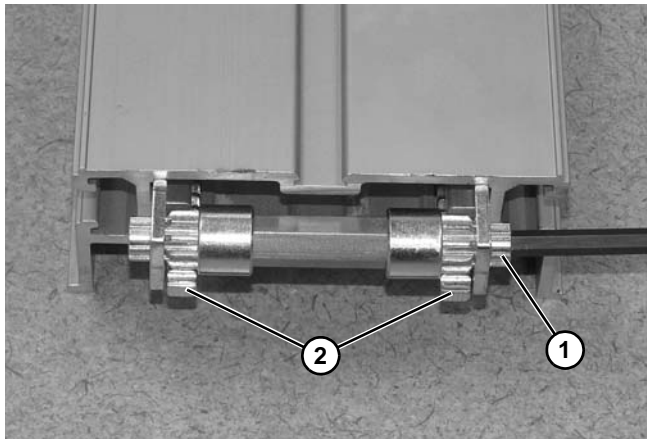

Figure 107
10. Rotate pinion (**Figure 107, item 1**) with hex wrench until gear racks (**Figure 107, item 2**) are fully collapsed.